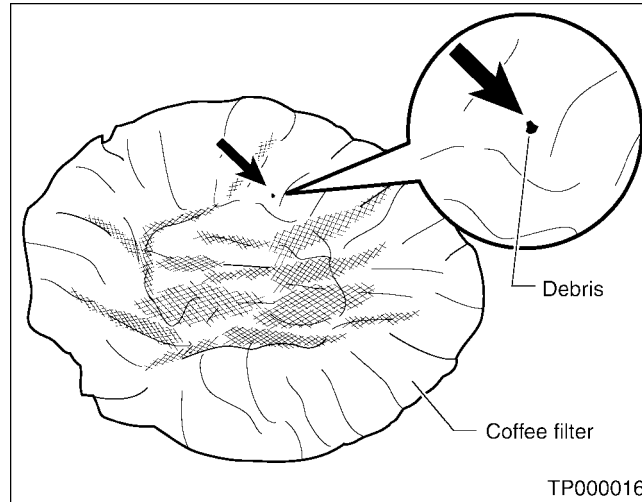

Figure 10
1. Inspect the coffee filter for debris (see Figure 10).